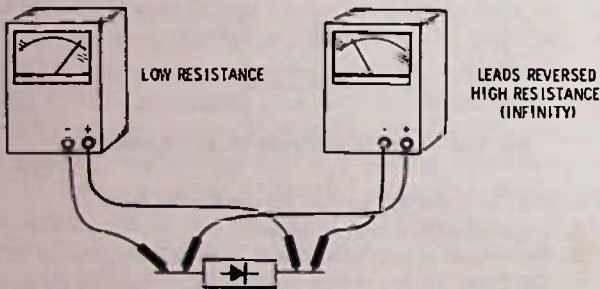

Fig. 9-24. Diagram for Question 19.
19. In Fig. 9-24, the vom is reading the resistance of a normal semiconductor diode. The readings show that